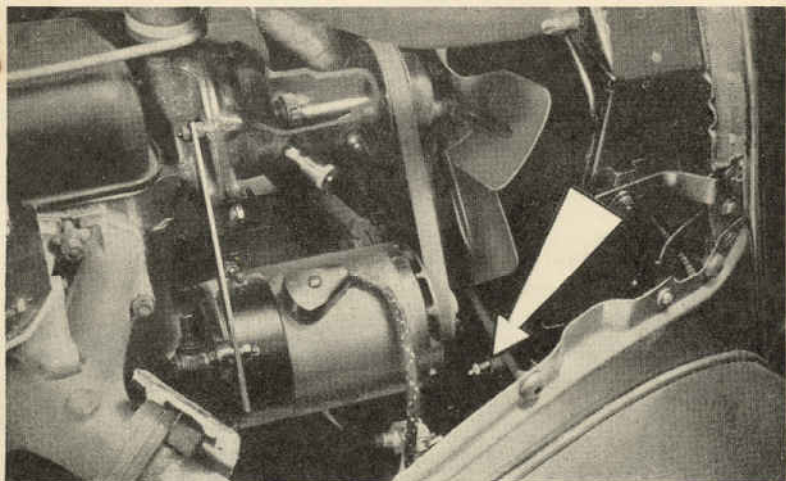
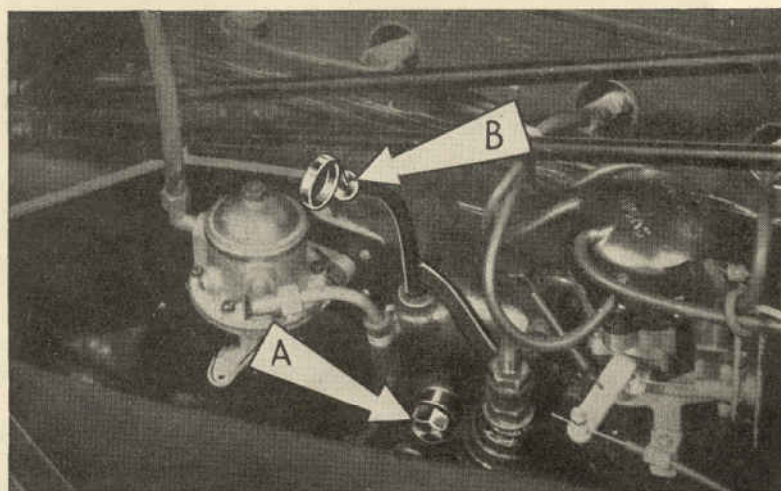

Fig. 3. The Radiator Drain Tap.
Fig. 4. The Cylinder Block Drain Tap and Dipstick.
- (1) That the oil level in the sump is between the upper and lower limits of the reduced width at the bottom of the dipstick. This should be done when the car is on a level surface. The level should never be above the upper or below the lower limits. (See B, Fig. 4.)
- (2) That there is sufficient water in the Radiator. The water level should be $1\frac{1}{4}$ " below the top of the filler neck.
- (3) That there is sufficient petrol in the tank as shown by the Petrol Gauge (4).
- (4) That the Gear Lever (15) is in the neutral position.
- (5) That the Hand Brake (16) is on.
Cooling System. If, during severe cold weather, an anti-freeze solution is not added to the water system, both Radiator (see Fig. 3) and Cylinder block (see A, Fig. 4) should be drained nightly.
Between drainings check the oil level, using the dipstick (Fig. 4), at intervals, making sure the car stands on a level floor.